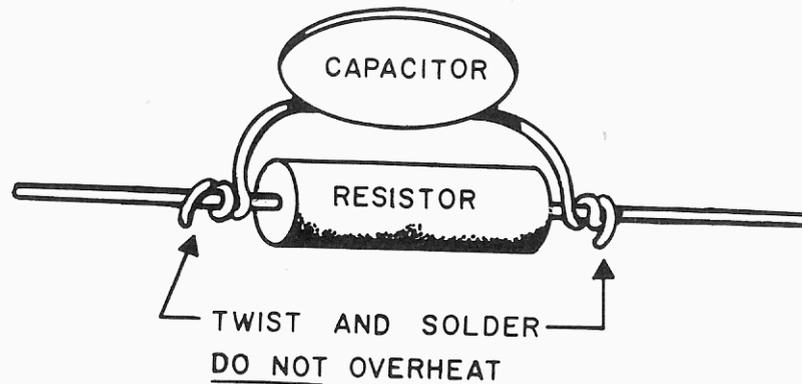

FIGURE 10
- ☑ R-1, 22K resistor (red, red, orange) and C-5, 20  $\mu\text{mf}$  disc capacitor. Wrap the leads of C-5 around the leads of R-1 as shown in Figure 10. Solder both leads of C-5 and cut the excess lengths.